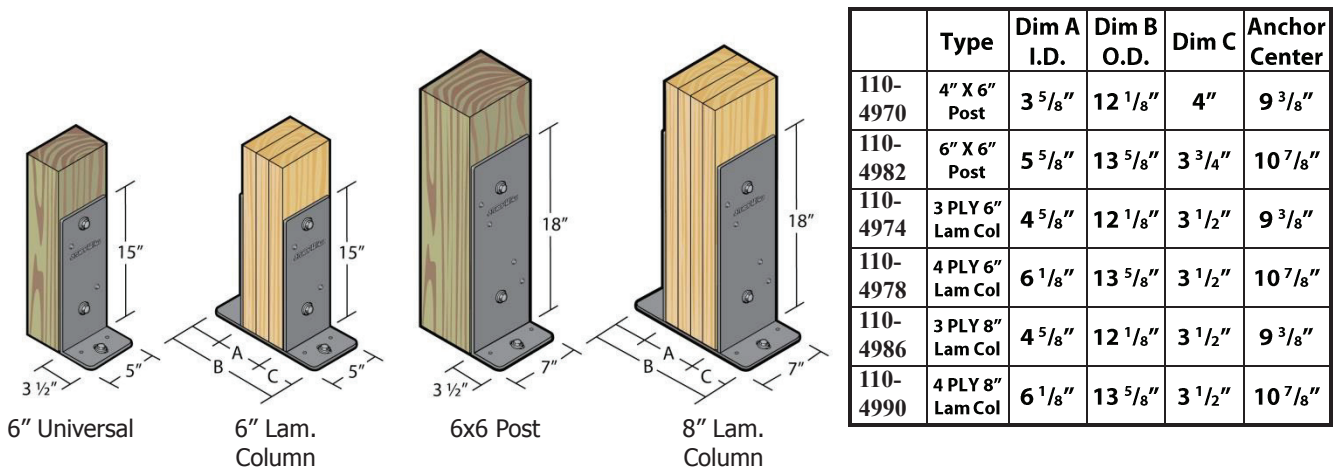
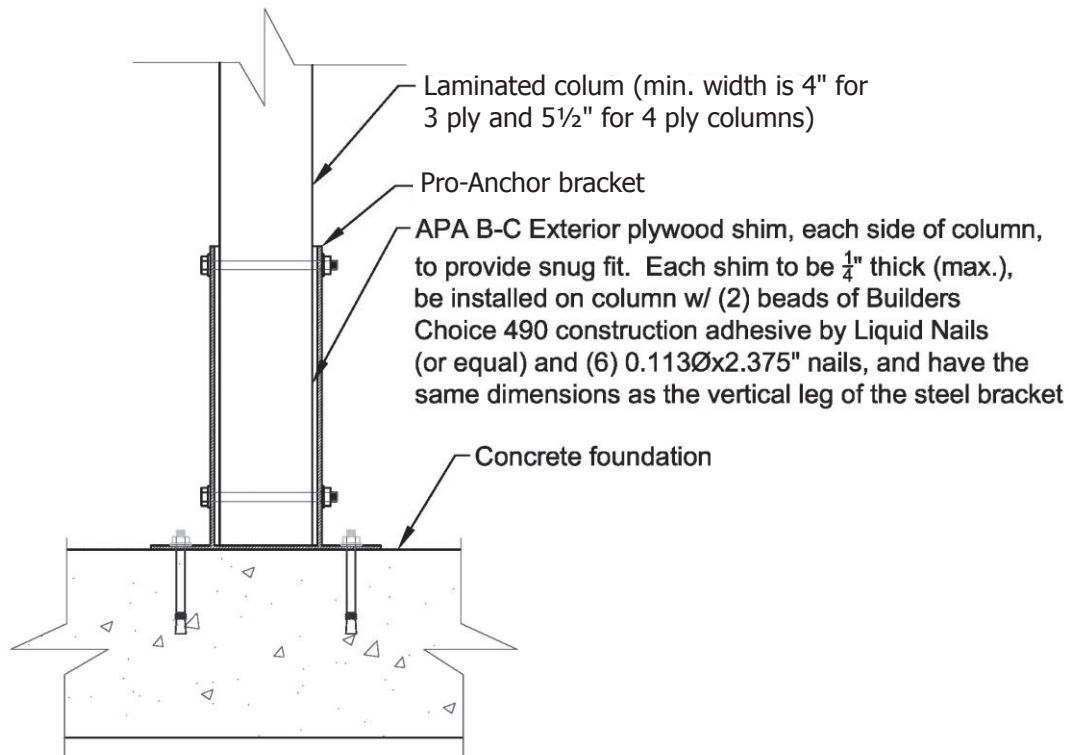

Figure 2.1: Pro-Anchor Descriptions
Figure 2.2: Pro-Anchor Shim Detail
Dimensions for the Pro-Anchor are given in Figure 2.1. The brackets are constructed with 1/4" structural steel plate with a minimum yield strength of 40 ksi, and 1/4" fillet welds of E70XX electrodes. Each assembly has a proprietary powder coat finish. The inside dimension of the brackets allow for an 1/8" total tolerance between the steel bracket and wood column. Glued laminated columns are acceptable; however, appropriately sized wood shims need to be added on both sides of the pocket to provide a snug fit as shown in Figure 2.2 (1/8" total tolerance is acceptable). **The shim should be APA B-C Exterior plywood (or equivalent), no more than 1/4" thick, and have the same dimensions as the vertical leg of the bracket. The shim should be fastened to the column with 2 beads of Builders Choice 490 construction adhesive by Liquid Nails (or equal) and (6) 0.113"x2.375" nails.** The single brackets shall be used as pairs and fastened using the same connectors as the fully assembled brackets.